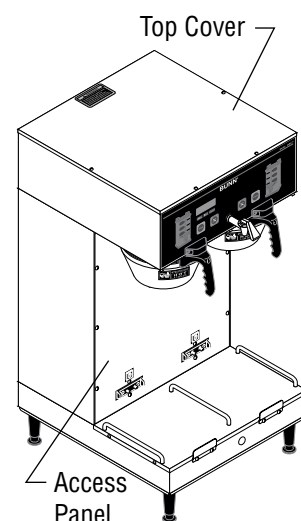

FIG 1
1. Remove the front access panel and top cover to gain access to the drain tube and faucet tube. (FIG. 1)